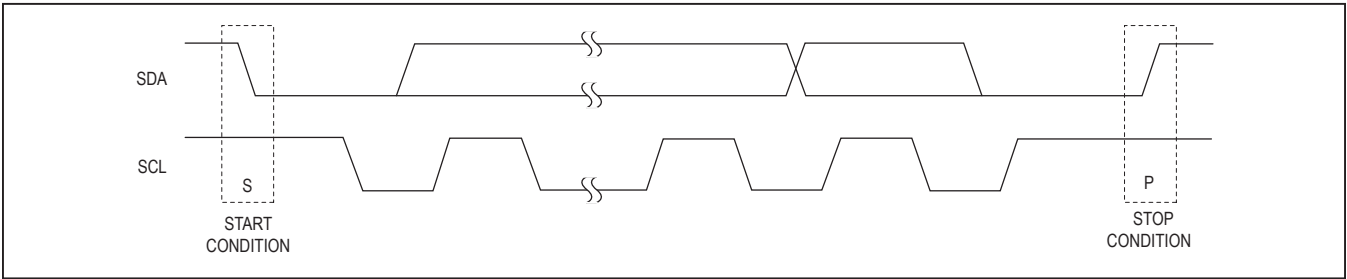

Figure 22. START and STOP Conditions
Both SCL and SDA remain high when the interface is not busy. A master signals the beginning of a transmission with a START (S) condition by transitioning SDA from high to low while SCL is high (Figure 22). When the master has finished communicating with the slave, it issues a STOP (P) condition by transitioning SDA from low to high while SCL is high. The bus is then free for another transmission.